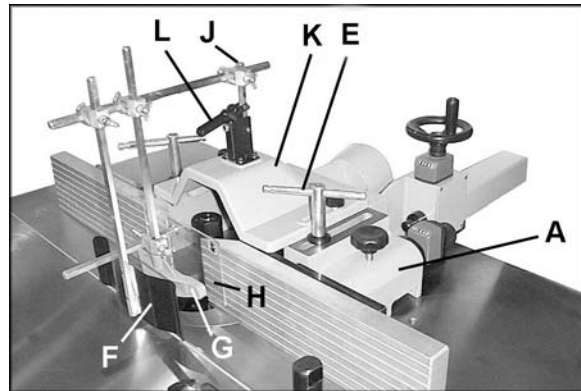

Figure 7
1. Place the fence body (A, Figure 7) on the table. Mount the two fence locking handles (E, Figure 7) with washers, and secure fence to table using one of the two sets of holes on the table.
4. Mount the cover plate (K, Figure 7) using the two locking knobs and flat washers.
The guard assembly can be mounted in various configurations, depending upon the type of work being done. Figure 7 shows one such configuration.
1. Mount the spring guard (F, Figure 7), hold-down (G, Figure 7) and clear plastic guard (H, Figure 7) to mounting rod (J, Figure 7) located on top of fence cover (K, Figure 7) using rod and clamps. The latch on the mounting rod (L, Figure 7) can be pushed down to help secure the guards in place.
2. The spring guard (F, Figure 7), hold-down (G, Figure 7) and clear plastic guard (H, Figure 7) can be flipped up out of the way when not in use or when making adjustments. Simply pull up the latch (L, Figure 7) and flip the entire assembly to the back.